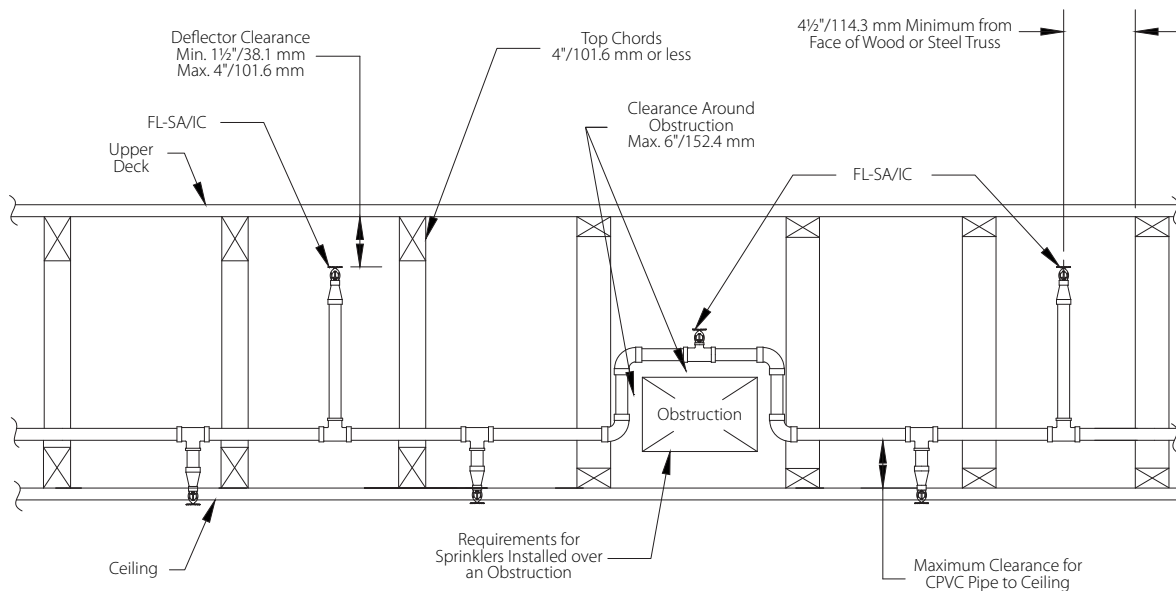
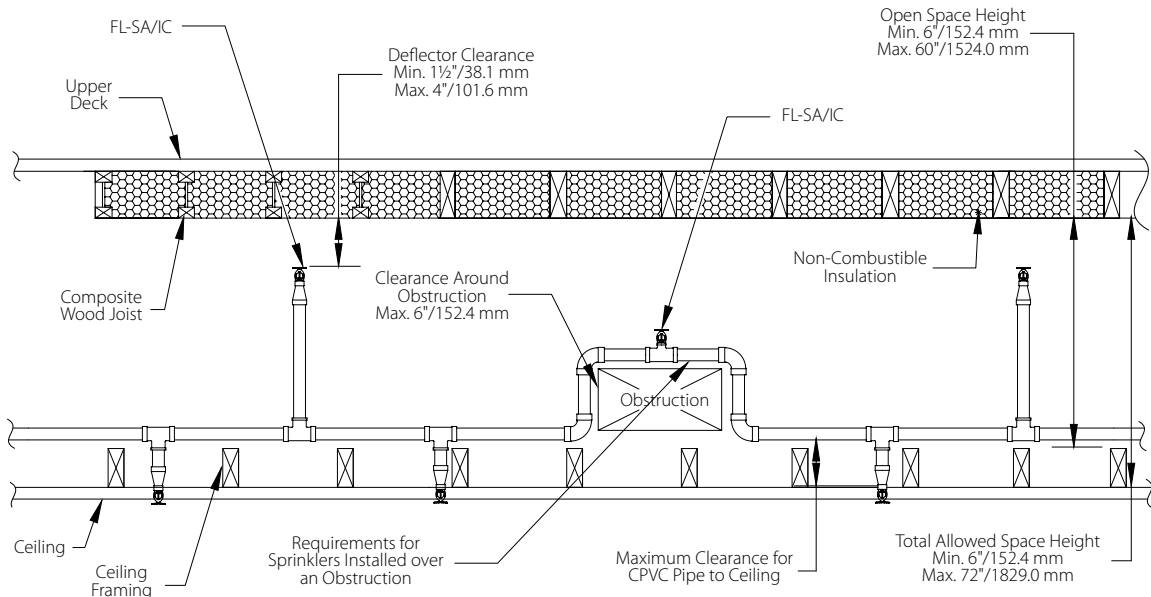

FIGURE 1
FIGURE 2
Solid or Composite Wood Joist Construction Where the Upper Deck is Filled with Non-Combustible Insulation (Figure 2)
Deflector Position: The clearance from the sprinkler deflector to the bottom of the joist is 1 ½" minimum to 4"/102 mm maximum (refer to Figure 2 Deflector Clearance).
Unobstructed Wood Truss and Bar Joist Construction (Figure 1)
Deflector Position: The vertical sprinkler-deflector clearance to the bottom of the roof deck is 1 ½"/38.1 mm minimum to 4"/101.6 mm maximum. The lateral sprinkler-deflector clearance from the side of chords or web members is a minimum 4 ½"/114.3 mm to centerline of sprinkler (Refer to Figure 1). The combustible concealed specific application sprinkler must be installed only in the upright position. The sprinkler deflector must be in-stalled parallel with the plane of the roof.
- If 12"/304.8 mm trusses are used in Figure 1, the bottom of the horizontal run must be no greater than 4"/101.6 mm above the ceiling. In Figure 2, if the concealed space height from the bottom of the upper deck joist to the top of the ceiling joist is the minimum 6"/152.4 mm requirement, the bottom of the horizontal run must be no greater than 4"/101.6 mm above the ceiling (refer to Figures 1 and 2, Maximum Clearance for CPVC Pipe to Ceiling).
- When sprinkler system piping must be offset up and over an obstruction, and the bottom of the pipe will be located more than 6"/152.4 mm or 1/3 of the total space above the ceiling, additional combustible concealed specific application sprinklers must be installed to protect the CPVC product (refer to Figures 1 and 2, Maximum Space for CPVC Pipe Over an Obstruction). The sprinkler must be installed directly over the obstruction (refer to Figures 1 and 2, Sprinklers Installed Over an Obstruction).